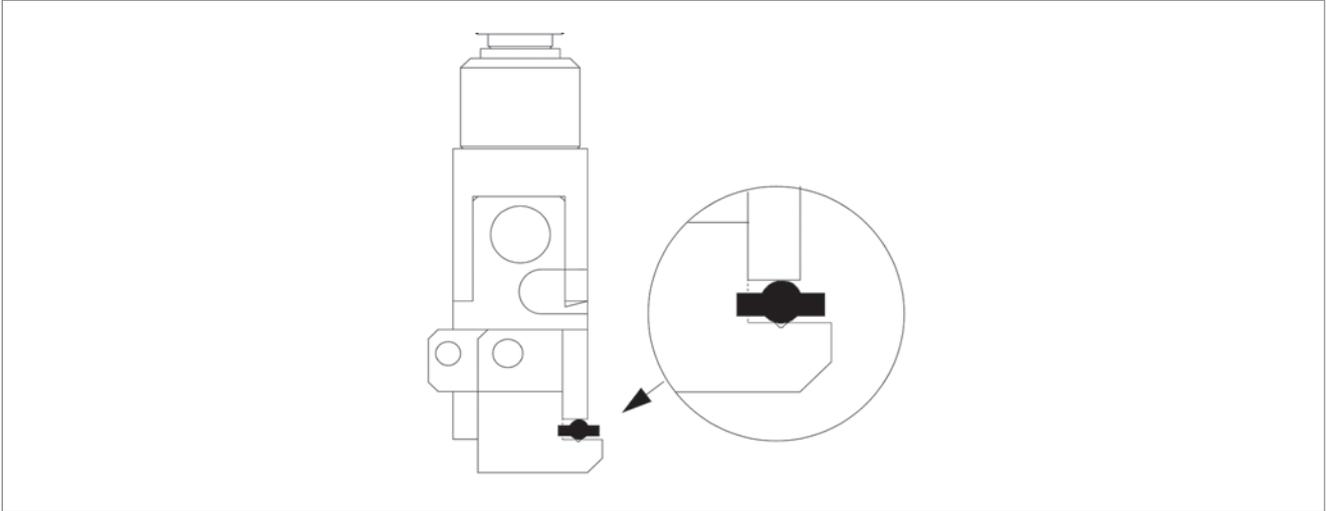

Fig. 46
- the key stem must be centred in the small “V” seat of the lower plan (Fig. 46).